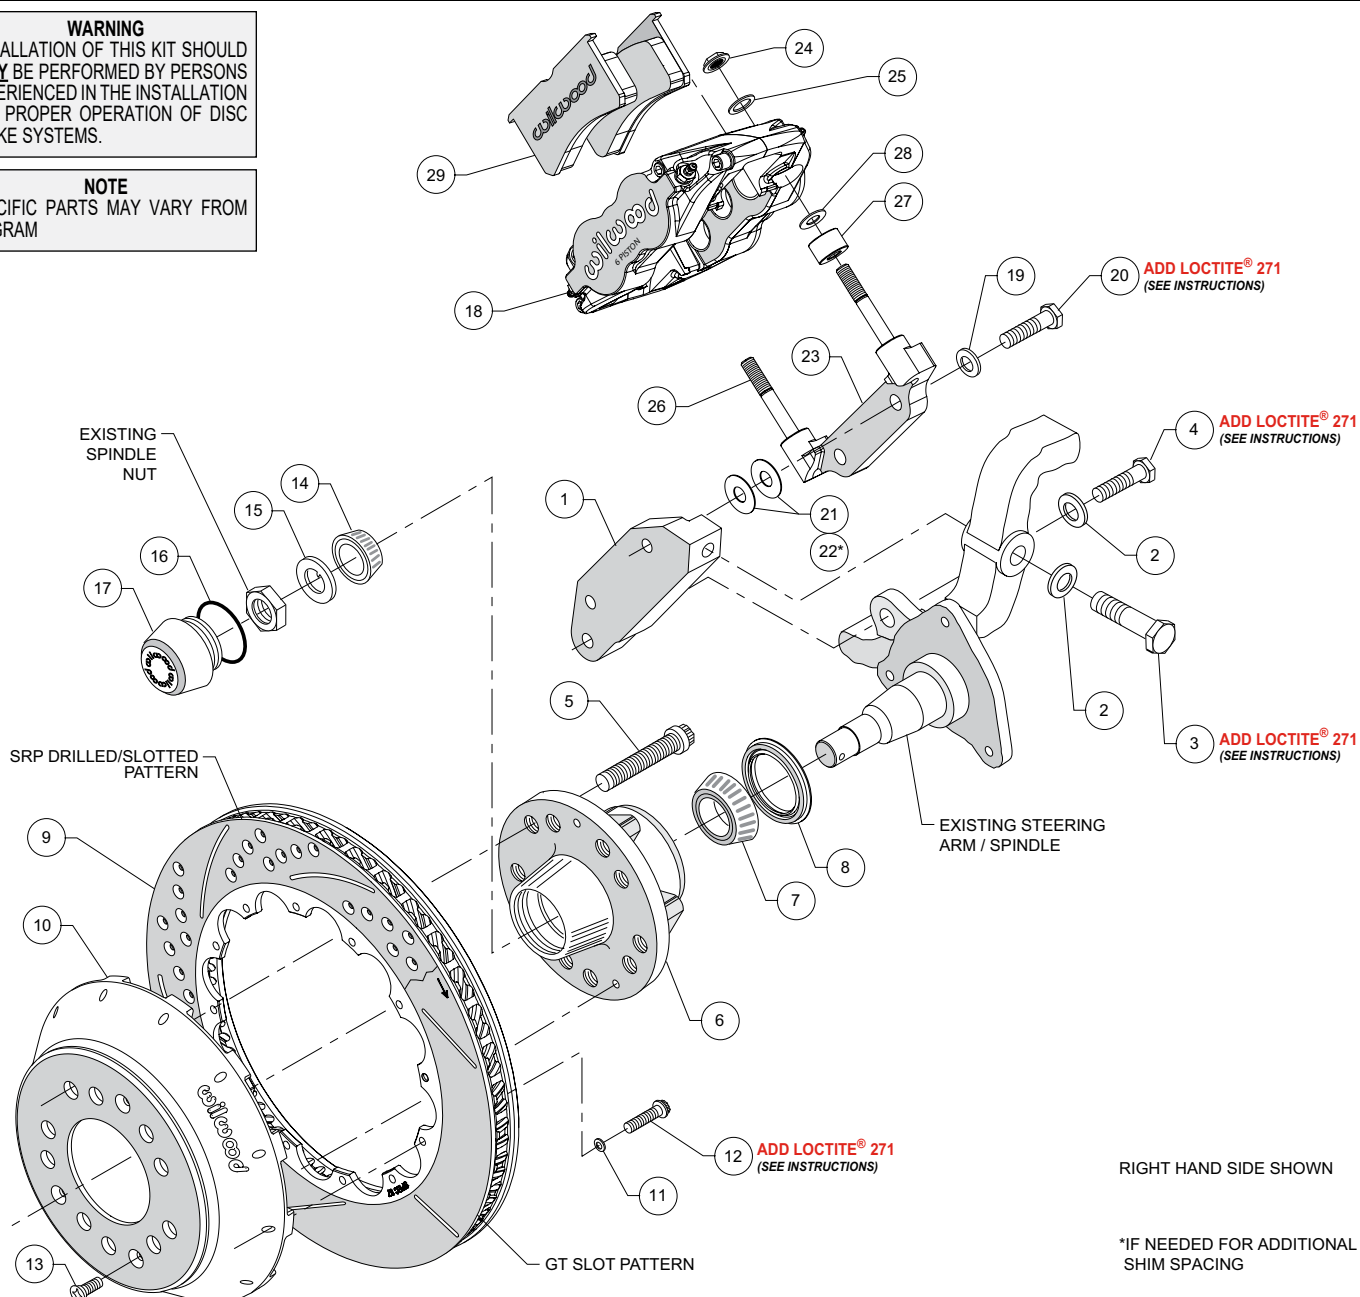
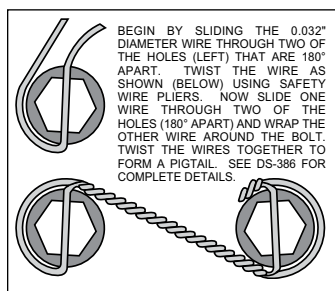

Figure 1. Typical Installation Configuration
Figure 3.
NOTE: Numbers in parenthesis refer to the parts list and Figure 1 on the preceding pages.
- Orient the spindle mount bracket (1), as shown in Figure 1, and attach to the spindle using bolt (3) and washer (2) in the upper hole, and bolt (4) and washer (2) in the lower hole. The bracket must fit squarely against the spindle mount points. Inspect for interference from casting irregularities, machining ridges, burrs, etc. Remove bolts one at a time, apply red *Loctite*® 271 to the threads, and torque to 77 ft-lb.
- Install wheel studs (5) into the hub (6), Photo 1. Torque to 77 ft-lb.
- Orient the rotor (9) and the hat (10) as shown in Figure 1 and Photo 4. Attach rotor to hat using bolts (12) and washers (11). Apply red *Loctite*® 271 to the bolt threads and torque to 155 **in-lb** using a criss-cross pattern. For an added measure of security, the bolts may be safety wired using standard 0.032 inch diameter stainless steel safety wire as shown in Figure 3. Refer to Wilwood's data sheet DS-386 (available at www.wilwood.com/Pdf/DataSheets/ds386.pdf) for complete safety wire installation instructions.
- Orient the radial mount caliper bracket (23), as shown in Figure 1, and mount to the spindle mount bracket (1) using bolts (20), and washers (19). Initially place two .030" thick shims (21) on each bolt between the two brackets. Temporarily tighten the mounting bolts. Later, after the caliper alignment has been checked, the mount bolts will be secured using red *Loctite*® 271.
- NOTE:** *This kit contains distinct right and left hand calipers that must be mounted in a specific direction, as described below.* Initially place spacer (27) and one .035" thick shim (28) on each stud (26) between the caliper and the bracket, as shown in Figure 1 and Photo 5. Mount the caliper (18) onto the radial mount caliper bracket (23) using lock nuts (24) and washers (25), Figure 1. Ensure that the caliper is mounted so the largest pistons are at the rotor exit end of the caliper, in relation to the direction of rotor rotation. Temporarily tighten the lock nuts and view the rotor through the top opening of the caliper. The rotor should be centered in the caliper, Photo 6. If not, adjust by adding or subtracting .030" shims (21), or adding .016" thick shims (22), as necessary between the radial mount caliper bracket (23) and the spindle mount bracket (1). Always use the same amount of shims on each of the two mounting bolts (20). Once the caliper alignment is correct, remove the bracket mounting bolts (20) one at a time, apply red *Loctite*® 271 to the threads, and torque to 47 ft-lb.